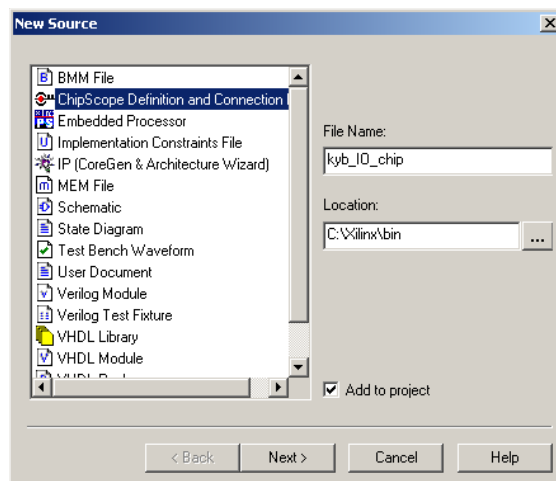

Figure 10
17. Add a new source file to your project as suggested by Figure 10.